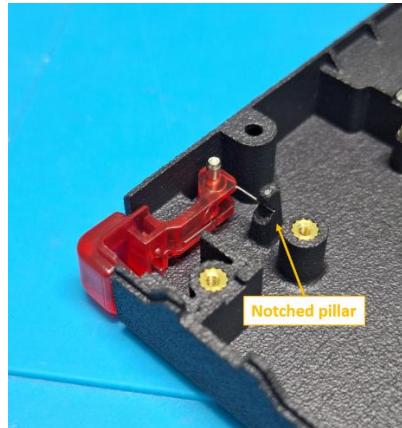

Figure 24: trigger button and spring installed in rear shell
6. Slide the right and left trigger buttons and trigger springs onto the corresponding trigger dowels. Hook the free leg of each trigger spring into the notched pillar to secure it as shown in Figure 24.